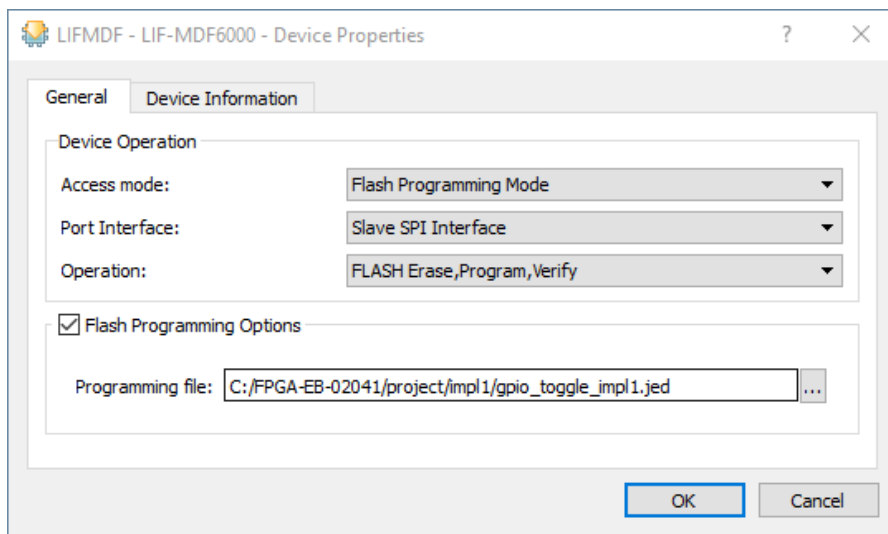

Figure 5.3. Diamond Programmer – Device Properties
4. The **Device Properties** dialog box opens, as shown in Figure 5.3. Select the following options: